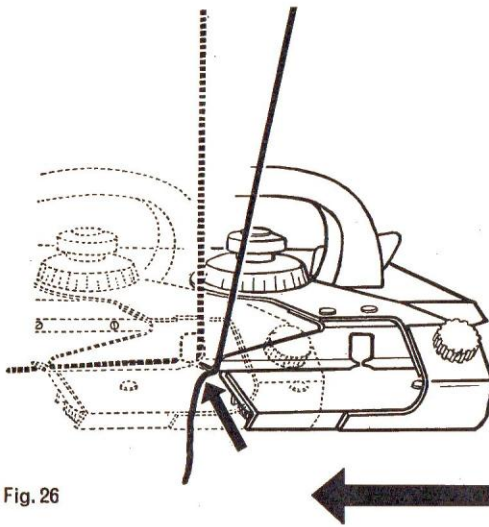

Fig. 26
5. It is then passed through the slit of the feeding eyelet immediately above the stripper and from the left between stripper and striking comb as shown in following Fig. 26.
Now move the lock slightly to the left and hold the yarn lightly and it will automatically pass into the central position. Fig. 26.